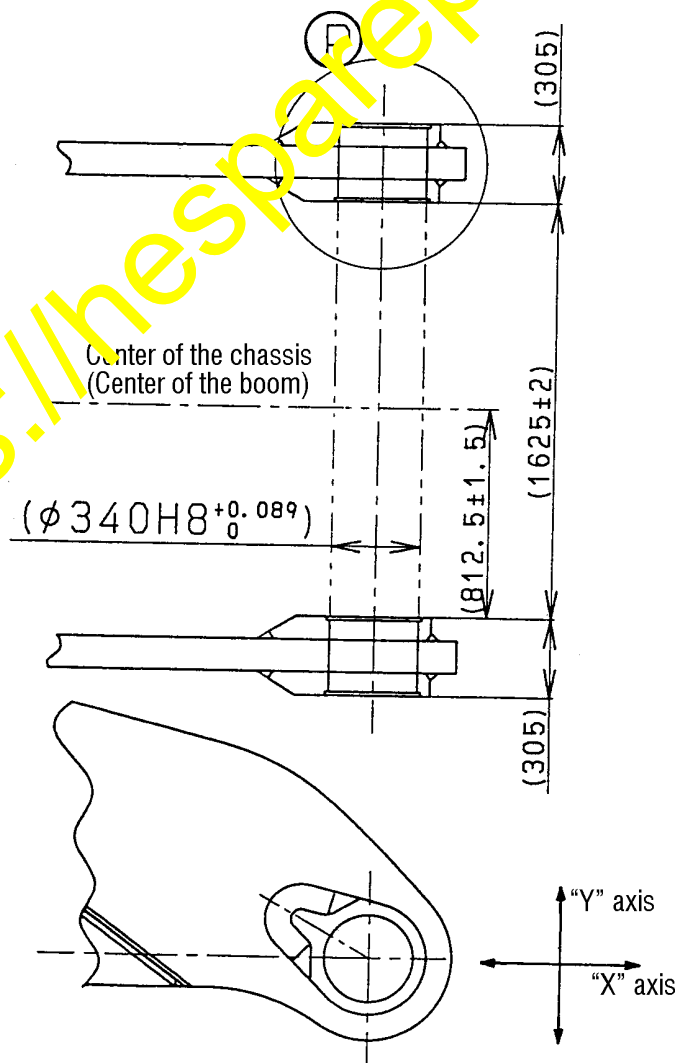

Fig. 4
- ① Measure the bore diameter of the hole in the boom (the $\phi 340$ H 8 section in Fig. 4 on page 5) in advance.